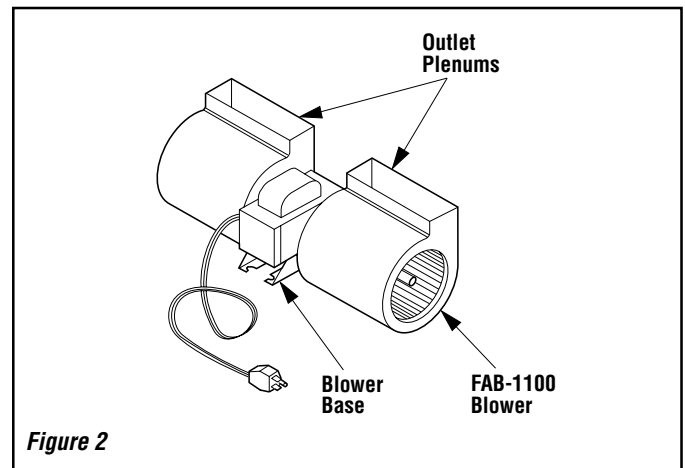

Figure 2
**Step 2.** The blower is properly positioned when it is centered against the appliance rear wall with the outlet plenums pointed upwards (**Figure 2**). Ensure that the blower base is firmly seated on the appliance base. Ensure that the blower is positioned against the appliance back wall. Some appliances are fitted with a blower shield preventing access to the back wall of the appliance. In this case remove the shield, place the blower, complete its installation, then replace the shield.